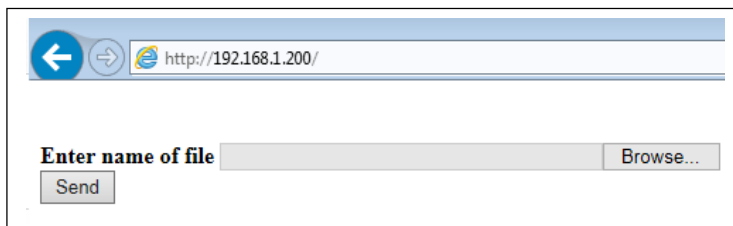

Figure 23. Old Firmware Upload Page
Step 3: The ZW-REC will restart in firmware update mode as shown in **Figure 23**.